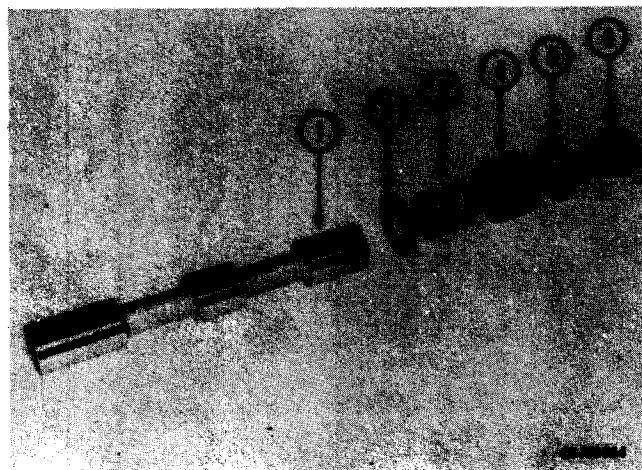

Figure 11-42
- a. Loosen and remove bolt (6, Fig. 11-42).
- b. Slide washer (2), spring (3), spacer (4) and washer (5) off of bolt.
Slide washer (5, Fig. 11-42), spacer (4), spring (3) and washer (2) on bolt (6).